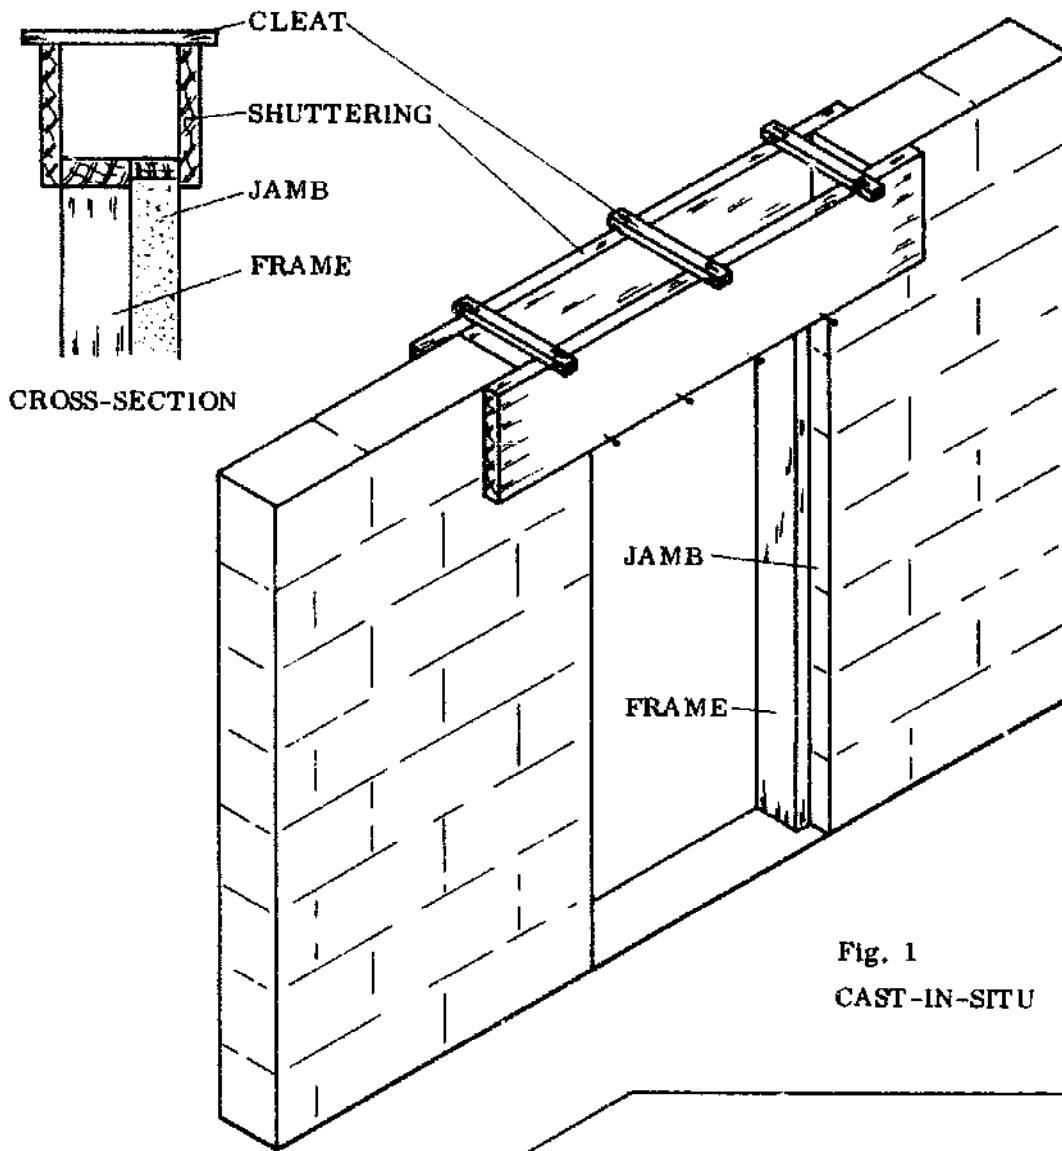

Fig. 1
- **CAST-IN-SITU:** This method is the most common one in Rural Building. The lintel is cast in situation; in the place where it is needed (Fig. 1). The advantage of this method is that no soffit board is needed for the form, because the head of the door frame acts as the bottom of the form, provided that the frame has been installed already. A further advantage is that any roof anchorage, if needed here, can easily be inserted into the reinforcement cage at the correct position.